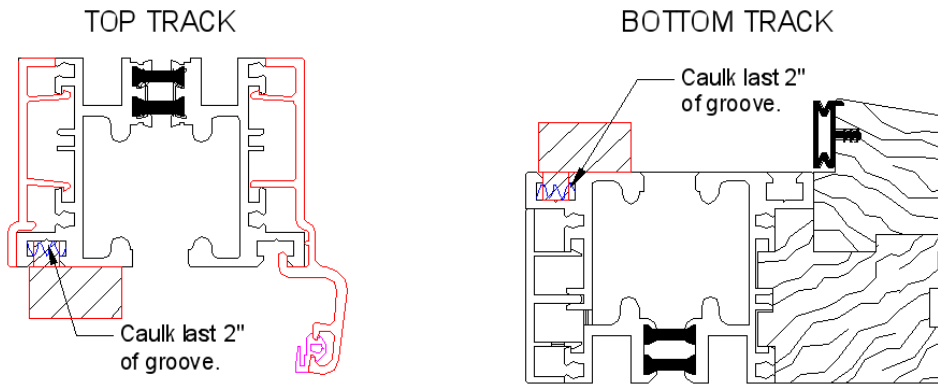

FIG 3.
- b) Caulk ends of both jambs as shown in Fig's 1 thru 3 depicted by squiggly lines. (FIG 3 on next page) Pre screw in 2 (#10 x 4" FH RB Screw) into top and bottom pre-drilled holes on both jambs for ease of installation.
- c) Caulk the last 2" of the outside groove of both top and bottom tracks before inserting jambs, as shown in FIG 3.
- d) Each jamb has a jamb insert top and bottom; these will be inserted to the outer groove of the top and bottom track. (See FIG. 3)